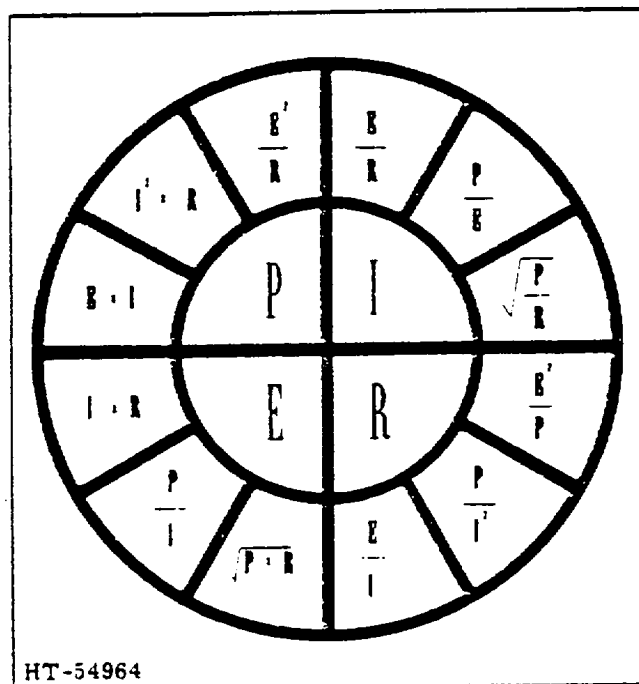

Figure 1. Ohm's Law and Power Formula Chart
OHM'S LAW. Ohm's law defines the relation between volts, amperes, and resistance. Voltage (in volts) is equal to the current (in amperes) times the resistance (in ohms). The equation is: $E = I \text{ times } R$. (See Figure 1.)
WATT (P). The watt is the unit of electric power. Power is equal to the product of the current (in amperes) times the voltage (in volts). The equation is $P = E \text{ times } I$. (See Figure 1.)